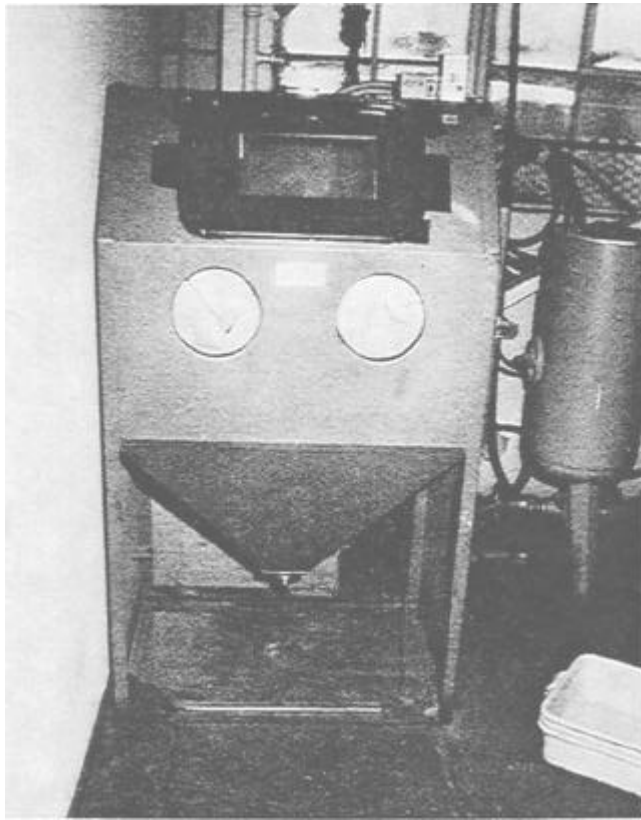

Figure 12-5.—A typical sandblaster. 28.465
**ABRASIVE CLEANING.**—You can use a sand blaster such as the one shown in figure 12-5 to remove heavy or insoluble deposits. Be sure to follow your operator's manual. Do not use the same abrasive blasting equipment to roughen surfaces that you use for general cleaning.